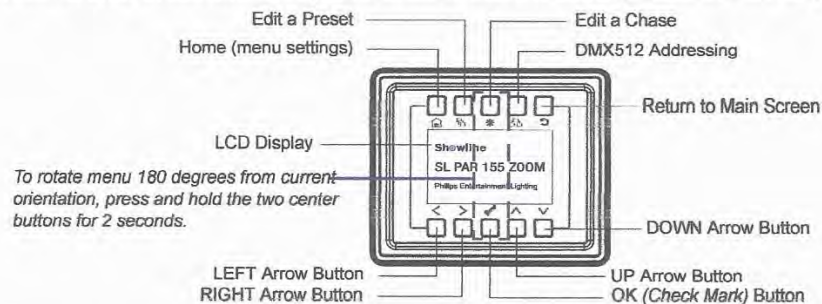

Figure 1-5: LCD Display and Menu System
- Step 2. Press the desired button (as shown in Figure 1-5) to access menu categories.
- Step 5. Press CHECK MARK (OK) button to accept changes.